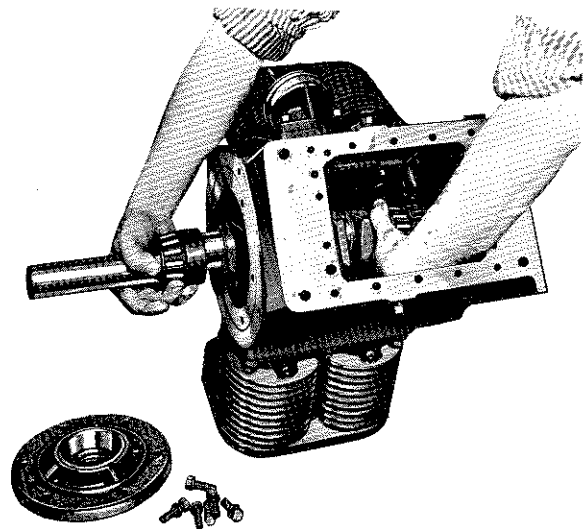

Figure IV-14 Removing Crankshaft
1. Crankshaft (SEE FIG. IV-14)